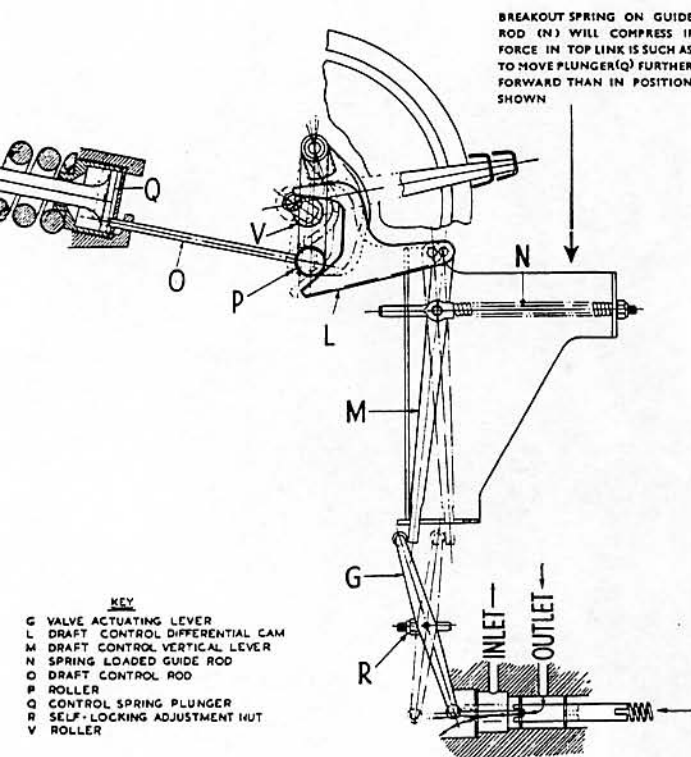

FIG. 20 DRAFT CONTROL 'OVERLOAD RELEASE'
OVERLOAD RELEASE (Fig. 20)
The foregoing characteristics of the overload release system are due to the respective positions assumed by cam (L) and roller (P), (see Fig. 20). With an implement operating under draft control the position of roller (P) is governed by the degree of draft. Independent of the location of roller (P), by a combination of the position of the draft control lever and the natural bias of the cam (L) rearwards, the necessary degree of forward travel of roller (P) to move the valve from neutral into overload release never varies. In practice, cam (L) functions as a link of variable length that automatically adjusts itself to alterations in the distance between roller (P) and the top of lever (M) when the valve is in neutral and thus establishes a constant value for the amount of control spring deflection to achieve overload release.